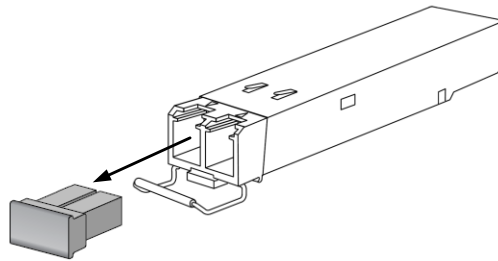

Figure 8: SFP+ Module with bale clasp open and dust plug removed
2. Remove the dust plugs from the module as shown in Figure 8.